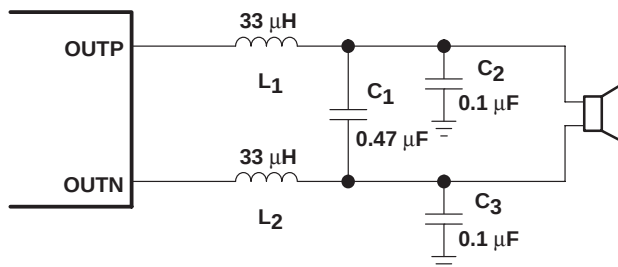
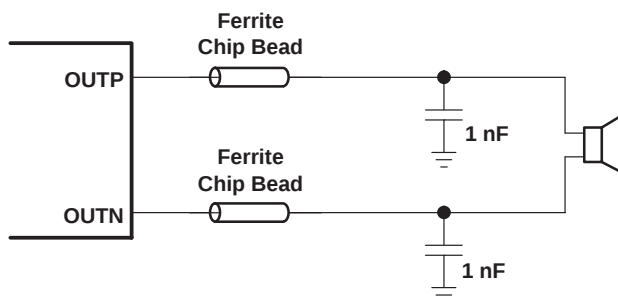

Figure 24. Typical LC Output Filter, Cutoff Frequency of 41 kHz, Speaker Impedance = 8  $\Omega$
Figure 25. Typical Ferrite Chip Bead Filter (Chip bead example: Fair-Rite 2512067007Y3)
- Output filter — The ferrite EMI filter (Figure 25, page 18) should be placed as close to the output terminals as possible for the best EMI performance. The LC filter (Figure 24, page 18) should be placed close to the outputs. The capacitors used in both the ferrite and LC filters should be grounded to PGND.